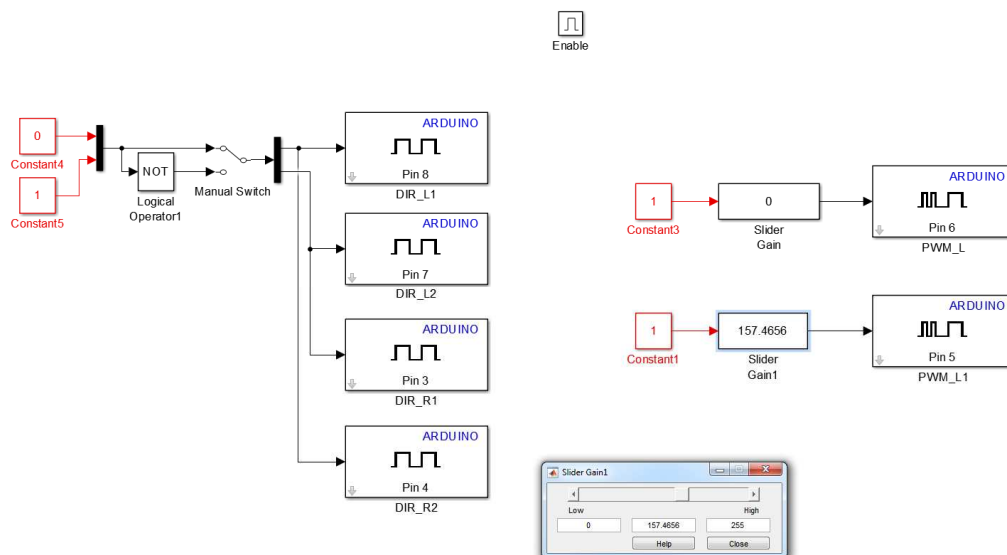

Figure 5: Motor control
- The rotational direction of the motor is configured via digital pins see Figure 5.